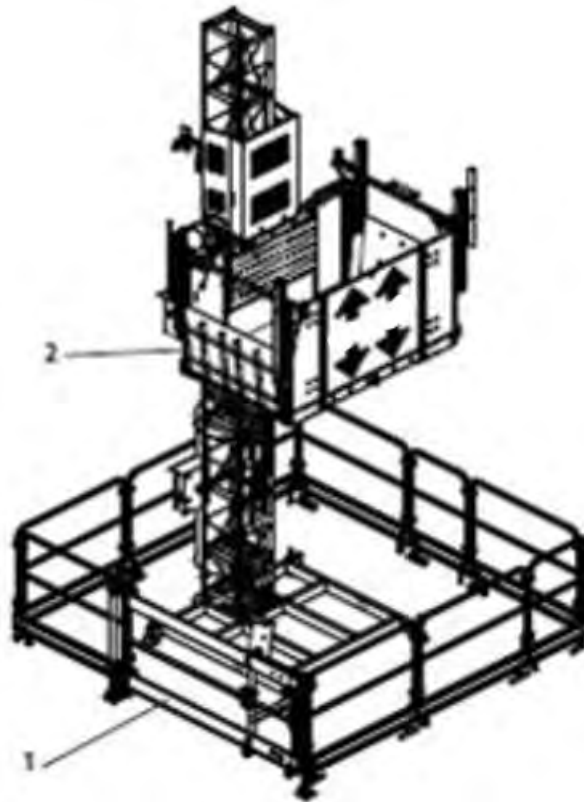

Figure 8.2
The electrically controlled movable guards that interlock mechanically are applied to the base enclosure access door, the ground floor access ramp to the loading unit and the doors leading to the floor level landing platforms. The control system consists of position detection switches and the mechanical interlocking system. If the door is open or not closed properly, the switch is not pressed; therefore, the machine cannot be operated. If the loading unit and the floor level doors are not aligned correctly, the mechanical interlocks prevent the doors from being opened. The base enclosure doors and the ramps are shown in figure 8.2; the door (1) allows access to the base enclosure and the ramps (2) allows access to the loading unit.